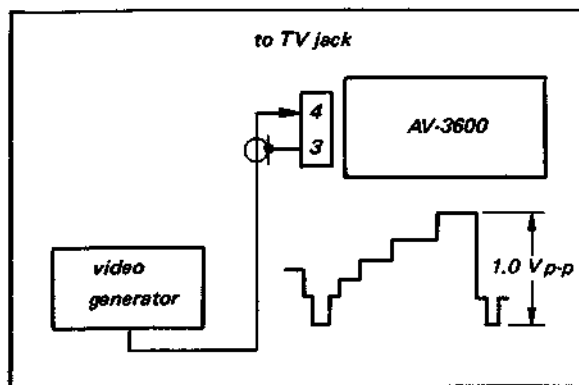

Fig. 5-1a. Maximum deviation adjustment set-up
Set-up: See Fig. 5-1a.
9. Apply a staircase signal of 1.0 volt (p-p) to the TV jack. See Fig. 5-1a.